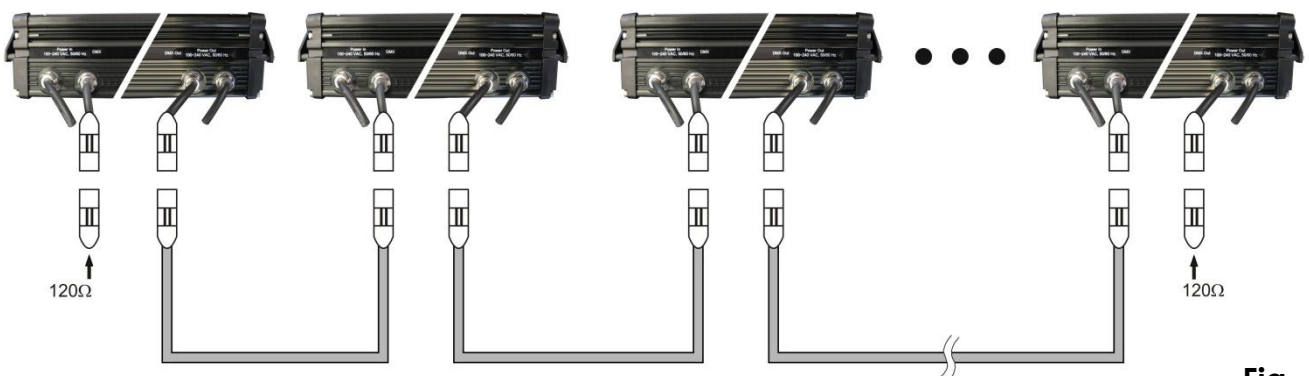

Fig. 4
3. Link the units as shown in (Fig. 4), Connect a DMX signal cable from the first unit's DMX "out" socket to the second unit's "in" socket. Repeat this process to link the second, third, and fourth units. You can use the same functions on the master device as described on page 13+14 (Built-in Programs or Auto Run). This means on the master device you can set your desired operation Mode and all slave devices will react the same as the master device.